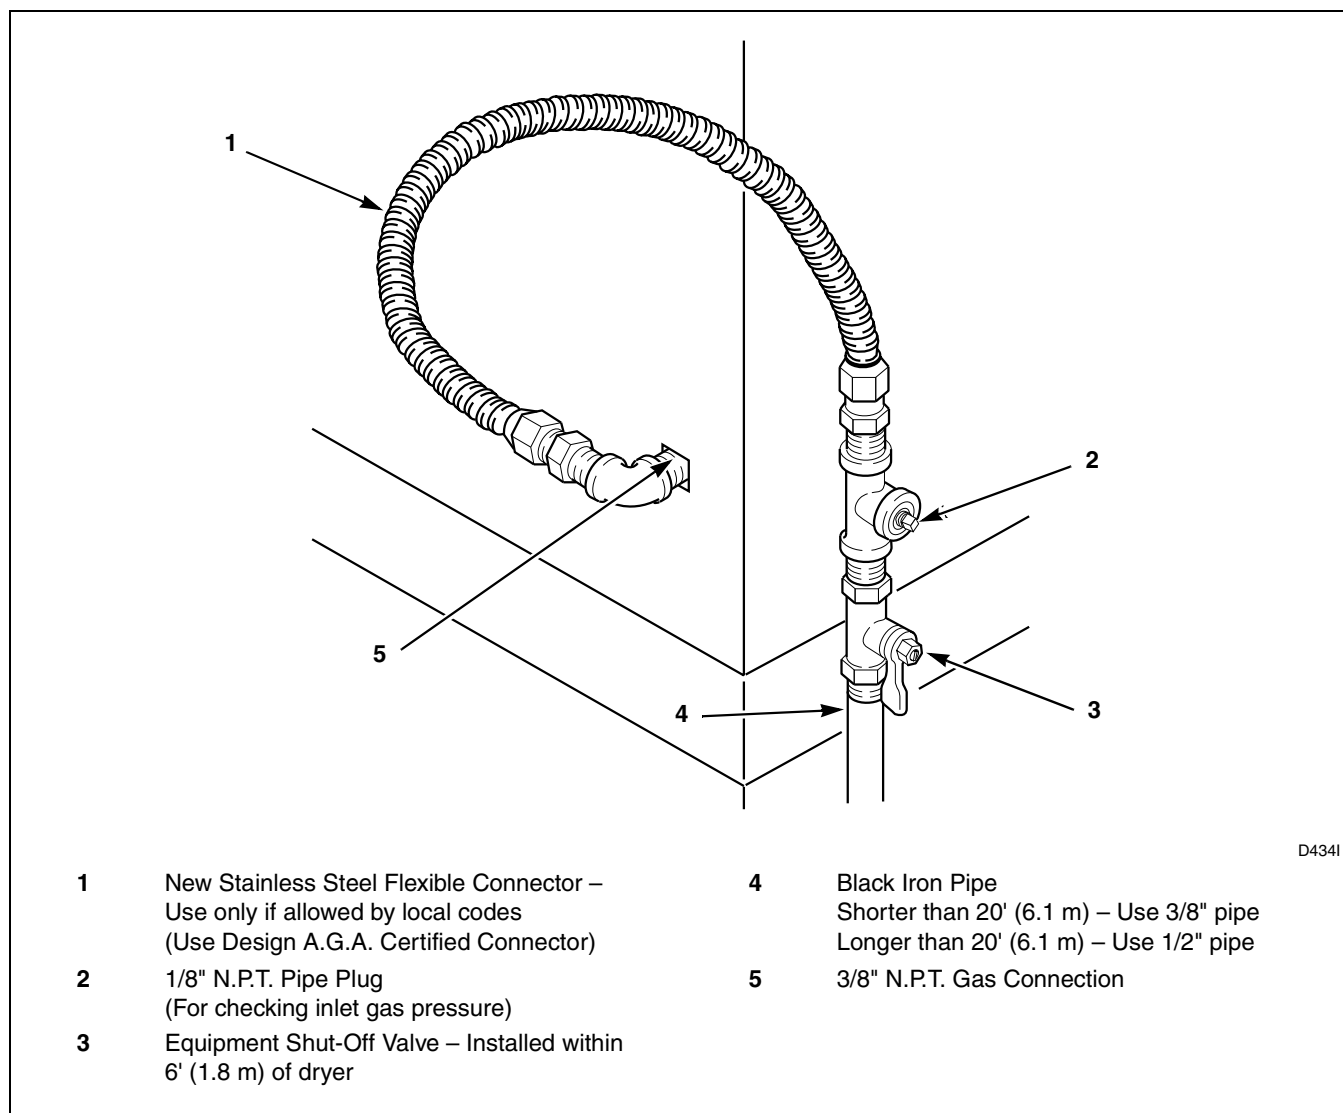

Figure 38
**NOTE:** When connecting to a gas line, an equipment shutoff valve must be installed within 6 ft. (1.8 m) of the dryer. An 1/8 in. N.P.T. pipe plug must be installed as shown. Refer to *Figure 38*.